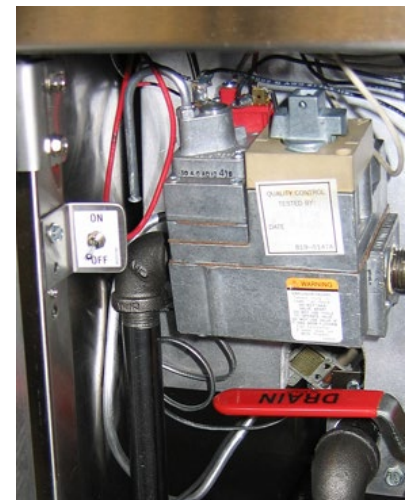

Figure 5: Tuck the wires behind the switch.
5. Tuck the wiring behind the mounted switch to prevent tangling and accidental wire breaks (Figure 5).